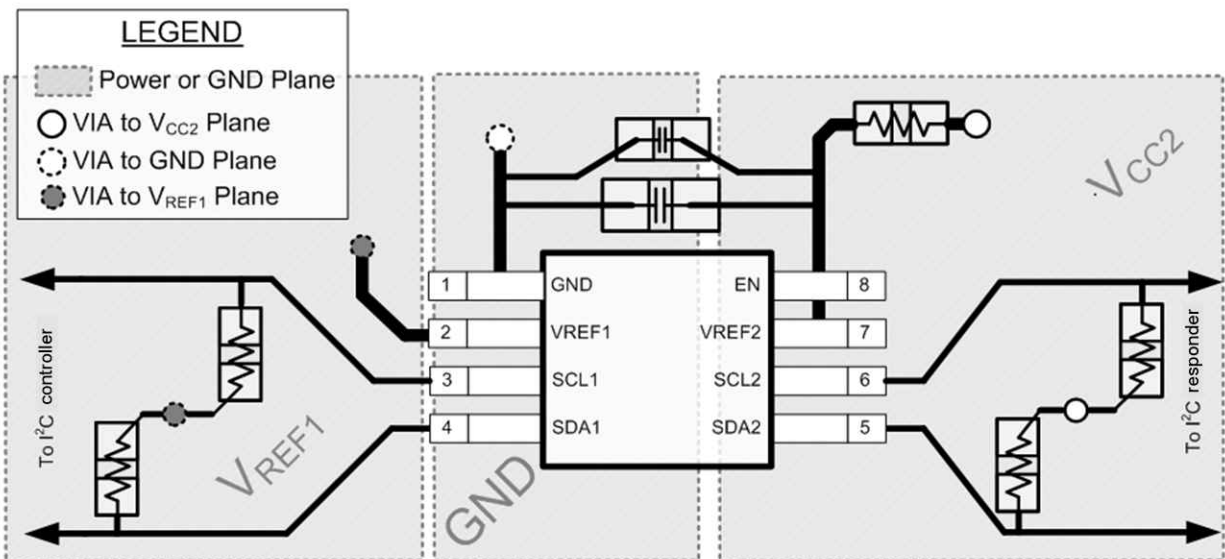

Figure 11-1. Layout Example
In all PCB layouts, it is a best practice to avoid right angles in signal traces, to fan out signal traces away from each other on leaving the vicinity of an integrated circuit (IC), and to use thicker trace widths to carry higher amounts of current that commonly pass through power and ground traces. The 100-pF filter capacitor should be placed as close to V_{REF2} as possible. A larger decoupling capacitor can also be used, but a longer time constant of two capacitors and the 200-kΩ resistor results in longer turnon and turnoff times for the TCA39306-Q1 device. These best practices are shown in Figure 11-1.
For the layout example provided in Figure 11-1, it would be possible to fabricate a PCB with only two layers by using the top layer for signal routing and the bottom layer as a split plane for power (V_{CC}) and ground (GND). However, a four-layer board is preferable for boards with higher-density signal routing. On a four-layer PCB, it is common to route signals on the top and bottom layer, dedicate one internal layer to a ground plane, and dedicate the other internal layer to a power plane. In a board layout using planes or split planes for power and ground, vias are placed directly next to the surface-mount component pad, which must attach to V_{CC} or GND, and the via is connected electrically to the internal layer or the other side of the board. Vias are also used when a signal trace must be routed to the opposite side of the board, but this technique is not demonstrated in Figure 11-1.